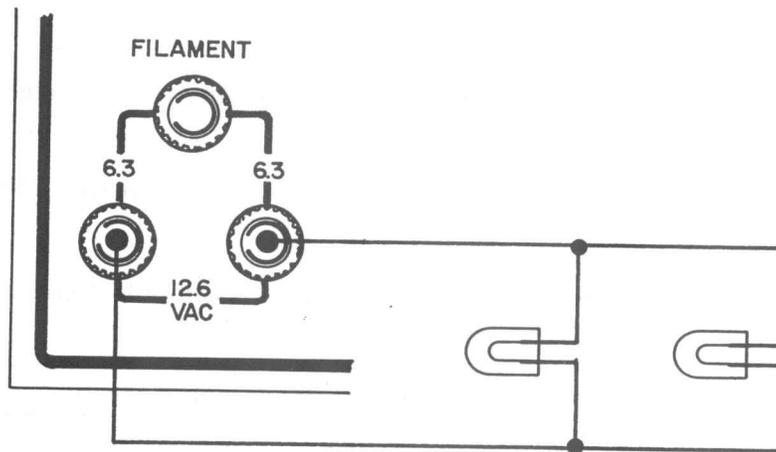

FIGURE 2-2
4. Using Figure 2-2 and the space provided, draw a circuit showing two 12.6 VAC lamps, at 750 mA each, connected to the 12.6 VAC binding posts.
5. Will the circuit breakers hold for the circuit of Figure 2-2? Yes
6. If the current rating of each lamp in the circuit of Figure 2-2 were increased to 950 mA each, would the circuit breakers hold? Yes